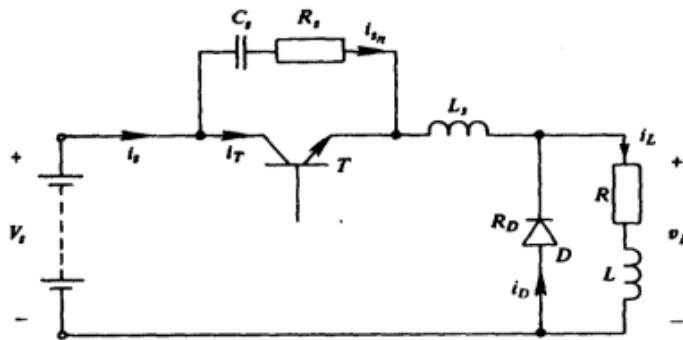

Fig.1
1. A class-A transistor chopper circuit shown in Fig.1 supplied with power from an ideal battery of terminal voltage 120 V. The load voltage waveforms consists of rectangular pulses of duration 1 ms in an overall cycle of 3 ms.
6. In the chopper circuit shown in Fig.1 (problem 1)  $V_i = 220V$ ,  $L = 1.5 \text{ mH}$ ,  $R = 0.5 \text{ ohm}$  and it operating with  $T = 3 \text{ ms}$  and  $t_{on} = 1.5 \text{ ms}$ .